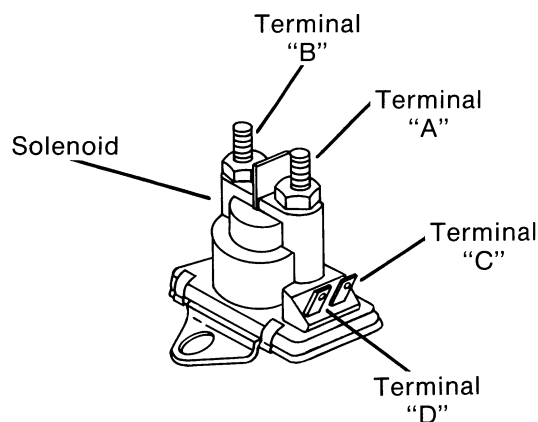

FIG. 32
- Connect leads of continuity tester or ohmmeter to the "A" and "B" terminals of solenoid. (Fig. 32) If continuity exists or ohmmeter reads zero, replace solenoid. If no continuity exists, go on to step "E". Repeat this procedure two or three times to insure a positive test.